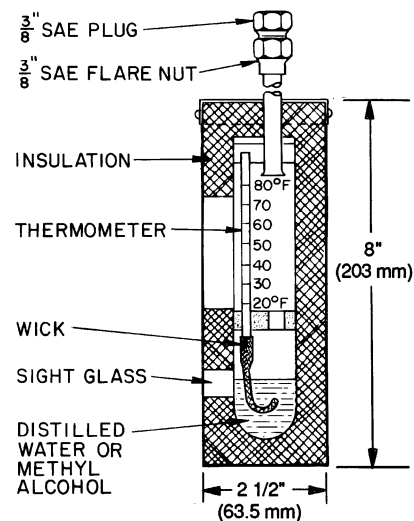

Fig. 24 — Typical Wet-Bulb Type Vacuum Indicator
- absolute pressure manometer or wet-bulb vacuum indicator (Fig. 24)